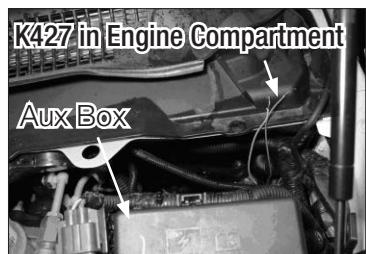

Figure 34
3. Location of K427 Wire (**Fig. 34**).